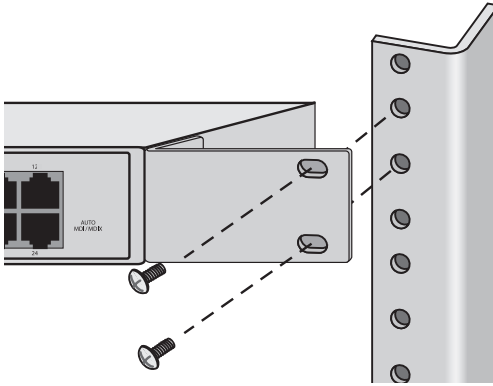

Figure 7 Installing the Switch to the Rack
4. Secure the switch to the rack using 2 screws (not provided) for each side as shown in Figure 7.